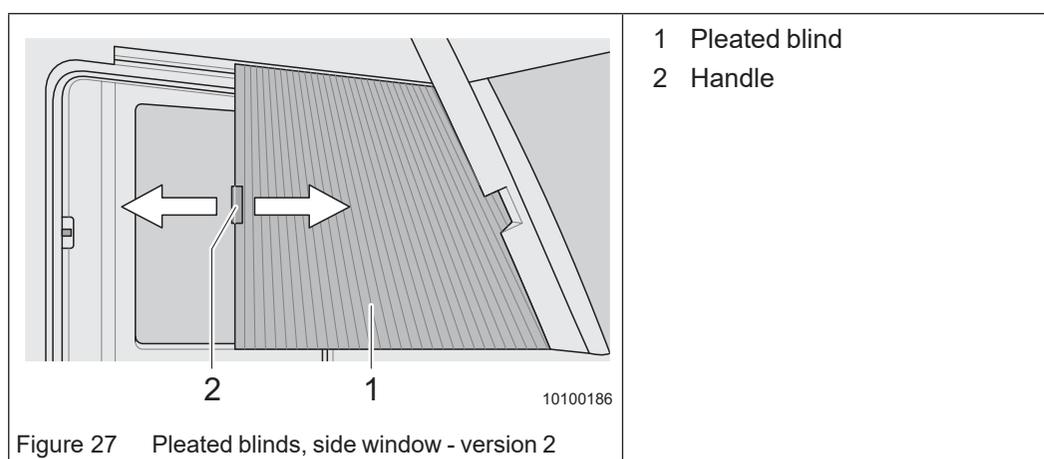

Figure 27 Pleated blinds, side window - version 2
The pleated blind (Figure 27/1) is mounted on the right and left side of the driver's cab windscreen.
- Pull the pleated blind (Figure 27/1) by its handle (Figure 27/2) to remove it from the mounting.